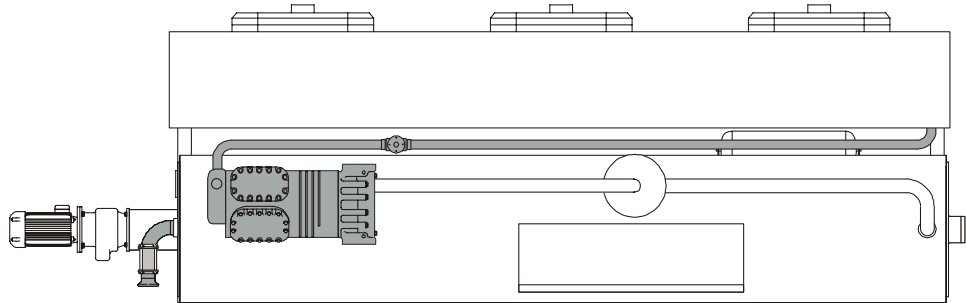

Figure 2
- 20) Never touch the areas marked with temperature warnings (see Figure 2).
When the machine is in operation, certain areas, i.e. the product inlet and outlet pipes, the compressor head and the related piping (see Figure 2), can reach dangerous temperature levels. To prevent the risk of scalding, never touch these parts without adequate personal protective equipment.